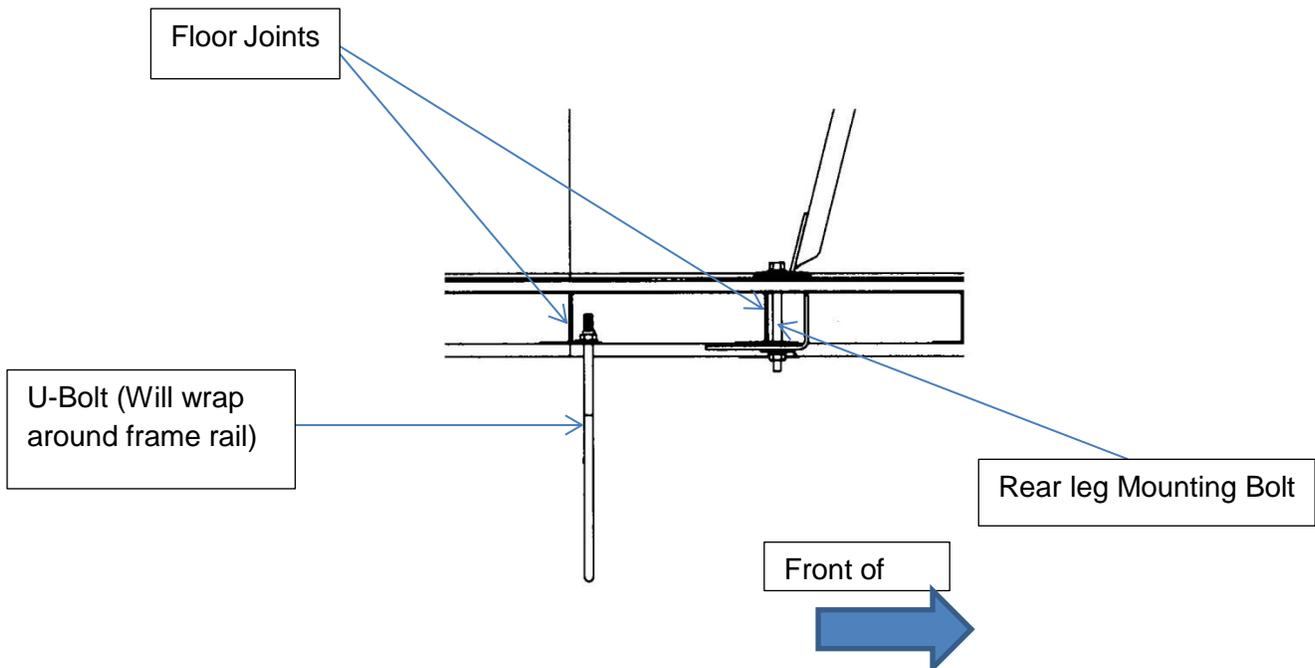

Figure 1
- 3) Under bus, locate where the back legs are mounted. They will be mounted where two floor sheet pieces come together. Using this as a reference, go back one floor joint and this will be the joint you will mount U-Bolt. (See **Figure 1**)